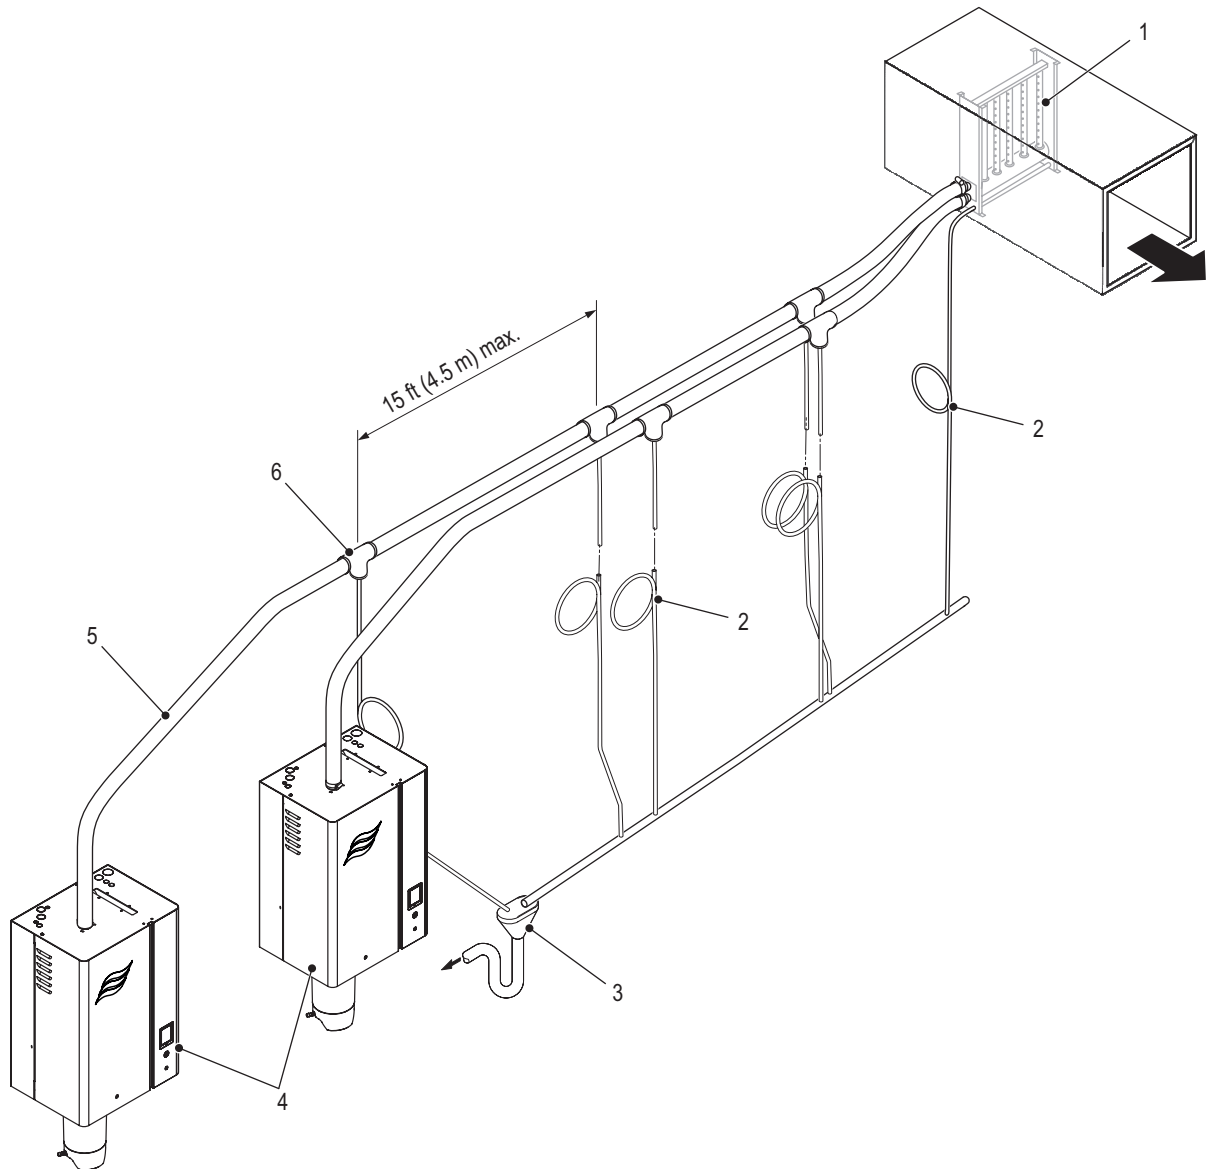

Figure 20: Combining Multiple Steam Lines
- ☐ Condensate lines and traps must be installed at regular intervals on long steam runs, and the maximum distance between condensate lines is 15 ft (4.5 m). Refer to Figure 20 on page 37.
- ❑ Multiple steam lines (from a Nortec RS 90L/130/180 with dual steam cylinders, or multiple humidifiers) must not merge except at the steam distributor, and ONLY if the steam cylinders operate in parallel mode – refer to Figure 20. If necessary, a specifically designed optional Condair adaptor must be used to connect the steam lines to the steam distributor.